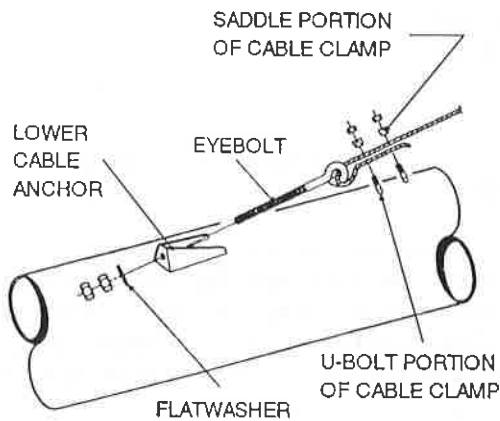

FIG. 33A
Step 4. Install eyebolts into the six lower cable anchors with eyes toward discharge end of auger. Use two nuts on each eyebolt. See Figure 33A.
NOTE: Secure clamp with u-bolt against loose end of cable. See Figure 33A.